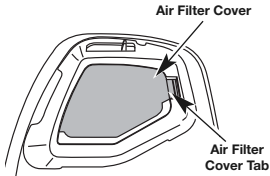

Fig. 27
1. Open the air filter cover by pressing the lock tab in and pulling out on the air filter cover (Fig. 27 & 28).